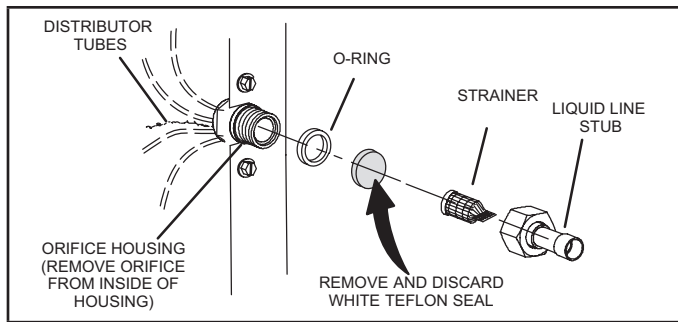

FIGURE 4. Typical Fixed Orifice Removal
- 4 - Remove and discard the existing orifice, valve stem assembly (if present) and Teflon ring as illustrated in figure 4.